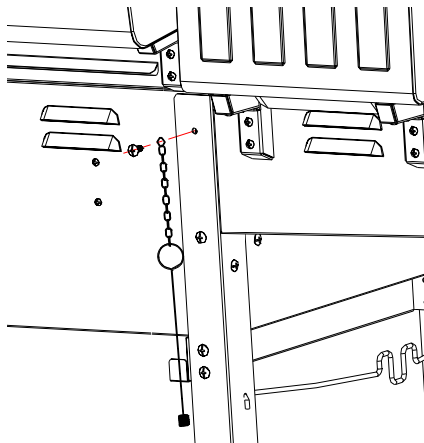

Fig.17
*Locate:* Match Holder & Chain and (1) M6x15 bolt.
*Procedure:* Attach match holder and chain to the top rear hole in the left rear leg by inserting an M6x15 bolt through the loop at the end of the chain and securely tightening. See Figure 17.